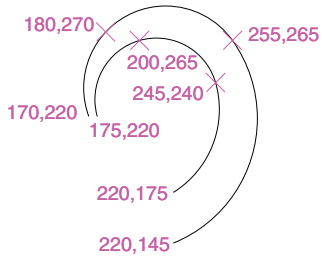
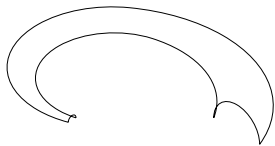

Fig. 18.18 Exercise 2 – the arcs on which the exercise is based
Fig. 18.19 Exercise 2 – semi-circles as end of arcs
- Using the **Polyline** tool construct arcs as shown in Fig. 18.18. Using the **UCS 3point** option construct semicircles joining both ends of the arcs as shown in Fig. 18.19.